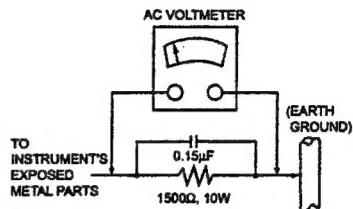

Fig. 1
- 5-2 Connect a 1500 ohm, 10 watt resistor, paralleled by a 0.15μF capacitor between each exposed metallic part and a good earth ground(as shown in Fig.1).